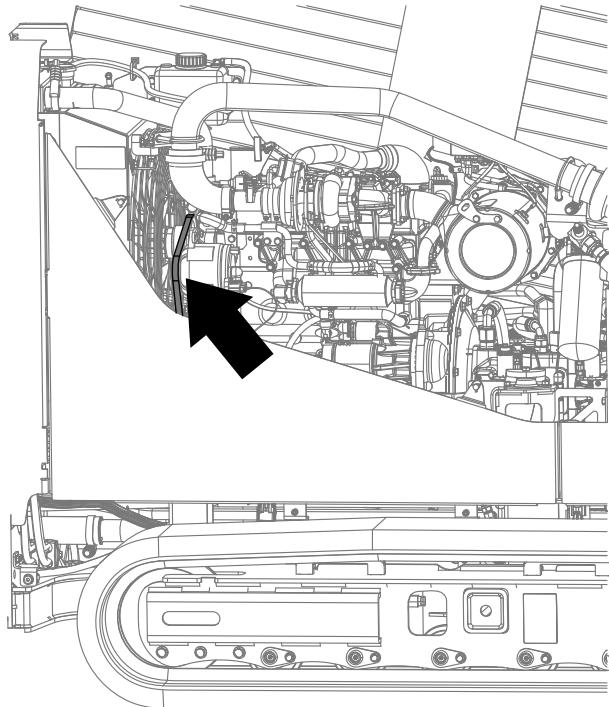

Figure 110
3. Inspect the belt for cuts, cracks, loose cords, grease, oil, twisting, or signs of abnormal wear (Figure 110).
3. Align a straight edge over the drive belt and across the pulleys (Figure 110).
4. Push the belt down at the midway point between the fan pulley and the alternator pulley as shown in Figure 110.